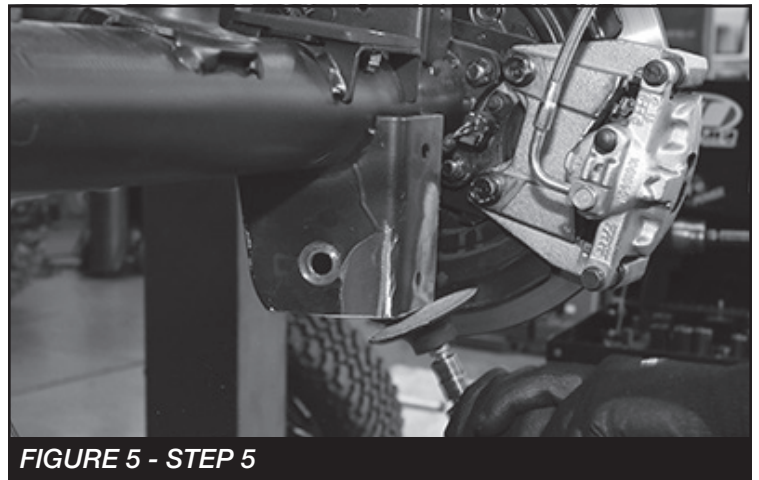

FIGURE 5 - STEP 5
5. Test fit the Lower rear shock mount and make additional cuts if necessary. Sand and paint all bare metal areas. **SEE FIGURE 5**